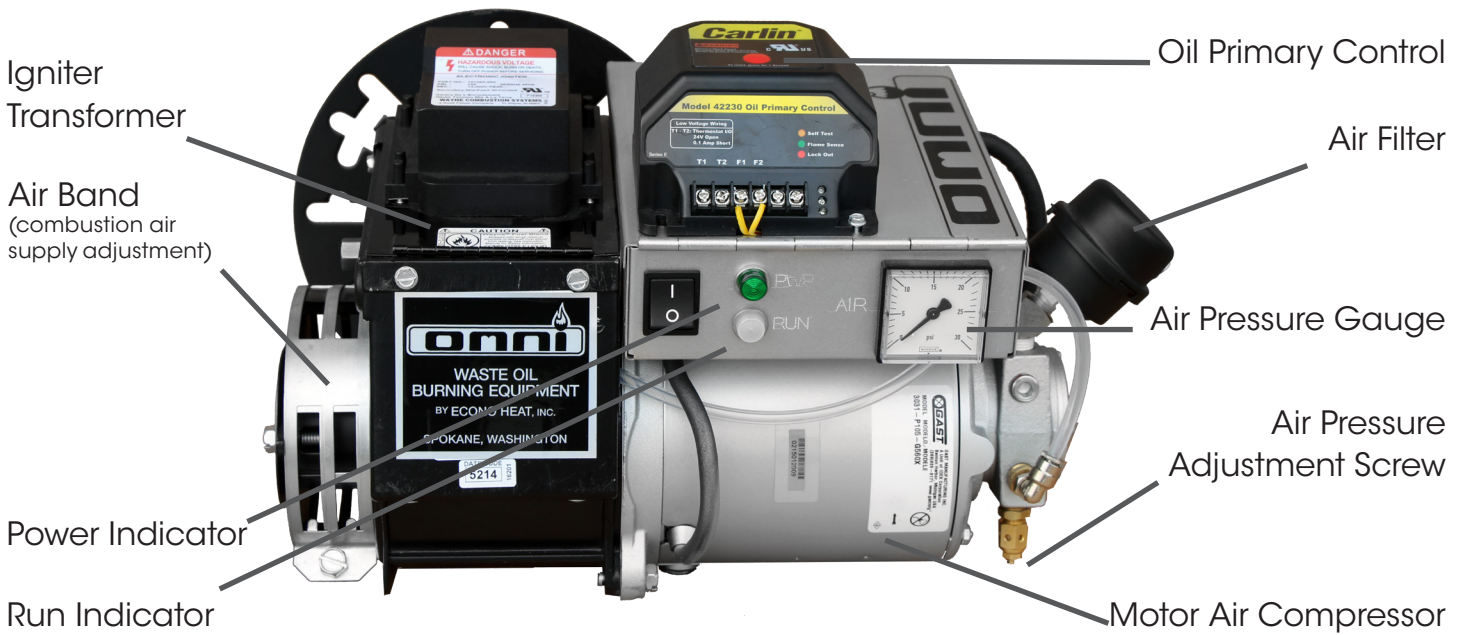
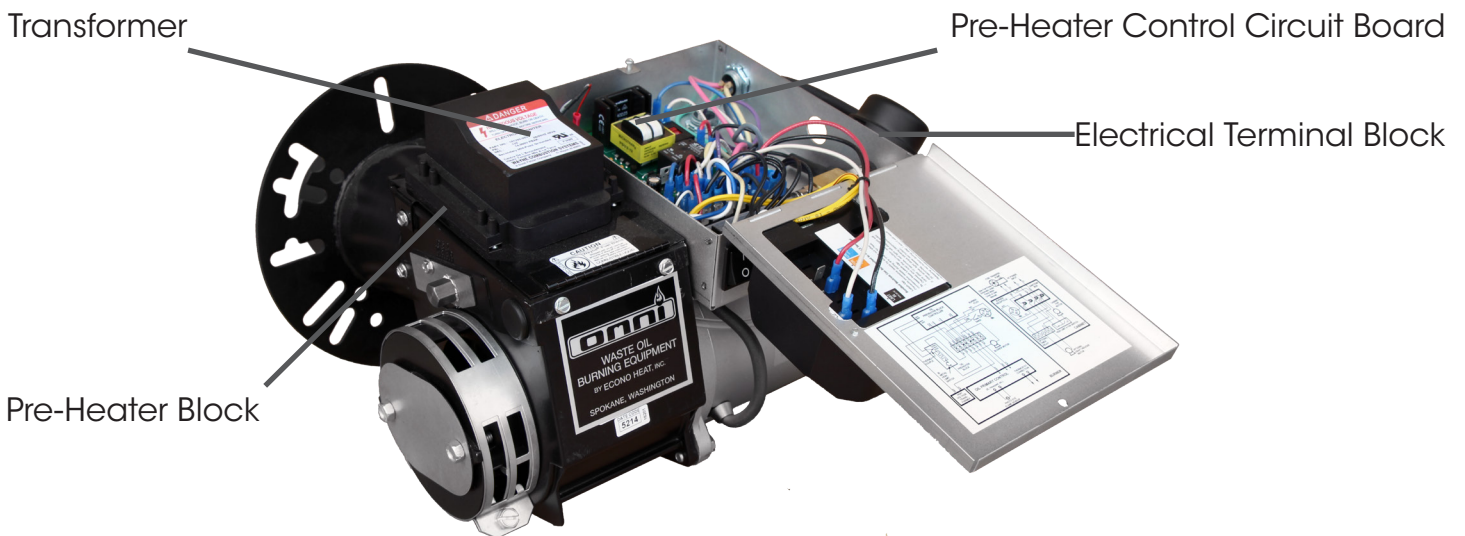
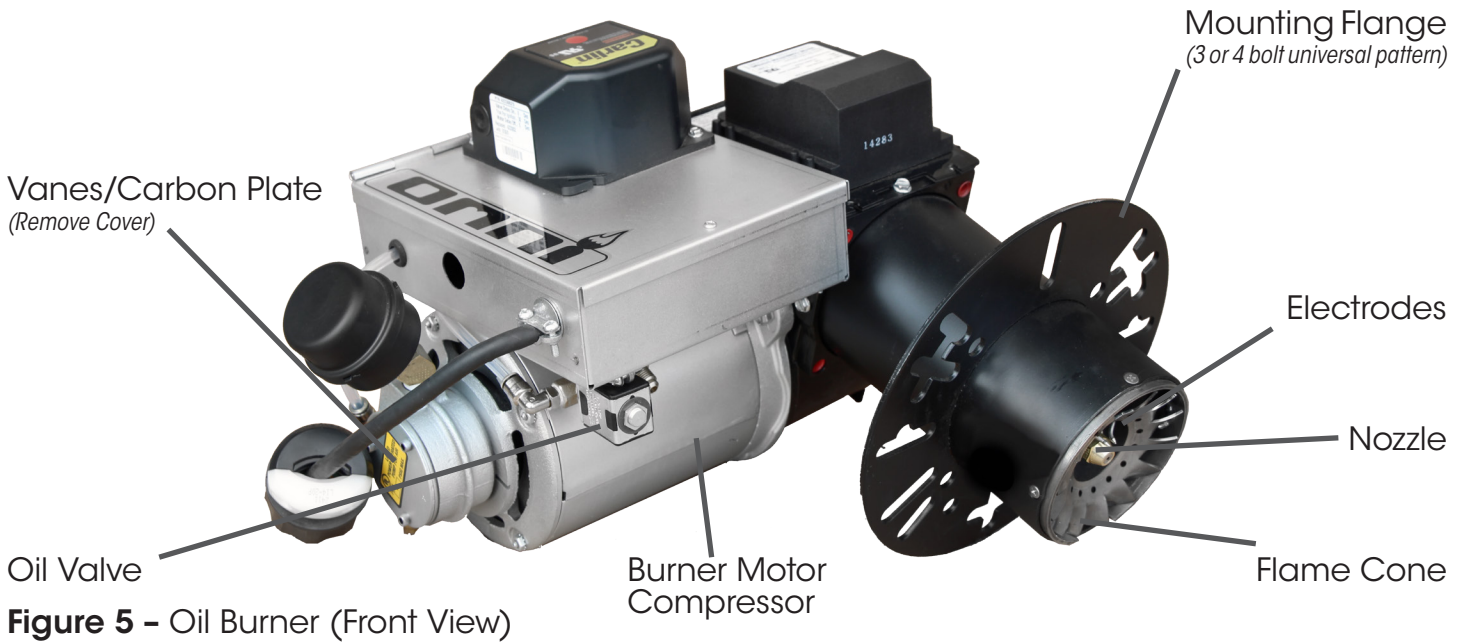

Figure 3 - Oil Burner (Back View Closed)
Figure 4 - Oil Burner (Back View Opened)
Figure 5 - Oil Burner (Front View)
3. Wire low voltage thermostat into "T" marked terminals on oil primary control on burner (Box on burner gun assembly with red reset button – figure 3).
OMNI's patented burner technology improves the efficiency of the oil burn process by continuous stabilization of the oil viscosity. Optimum atomization (spray) is accomplished by precisely pre-heating the oil and air prior to introduction to the combustion chamber. The waste oil enters into the Oil Pre-Heater Block (figure 4) and is pre-heated to operating thermo setpoint, then compressed air from the air compressor (figure 3) is mixed with the oil prior to spraying out the nozzle similar to fuel injection, by breaking up the oil droplets into a finer mist or spray (atomization). Electrodes mounted just above the nozzle (figure 5) provides continuous electrical arc across electrode to electrode igniting the fine oil mist as it sprays out of the nozzle. Once ignited the flame is forced into a swirl caused by the burners blower and specially designed flame cone (figure 5) providing a very efficient and thorough burn of the waste oil.
- **Igniter Transformer:** (figure 3) Supplies high voltage to the electrodes generating electrical arc igniting the oil.
- **Oil Valve:** (figure 5) energizes when burner is running and de-energizes when burner is not running eliminating bleed back of oil out of the Pre-heater block.
- **Air Band:** (figure 3) Adjusts amount of air introduced into the combustion chamber. Air band is adjusted at the factory for optimum performance, approx. $\frac{1}{2}$ to $\frac{3}{4}$ inch open. **NO FIELD ADJUSTMENT REQUIRED** unless in high altitudes application where minor adjustment may be required.
- **Oil Primary Control:** (figure 3) Controls the oil burner ignition. Checks for flame in the combustion chamber, if no flame is detected within 45 seconds, the oil primary will shutdown the oil burner. To restart the unit, reset the red button on the oil primary.
- **Oil Pre-Heater Block:** (figure 4) Pre-heats the oil and air before entering combustion chamber.
- **Photo Eye:** (figure 4) Senses flame in combustion chamber and signals oil primary when no flame is present.
- **Igniter Springs:** (figure 4) Transfers the high voltage from the igniter transformer to the electrodes (when door is closed)
- **Air Pressure Gauge:** (figure 3) Displays air pressure supplied by onboard air compressor.
- **Air Compressor:** (figure 3) Supplies air used within pre-heater block to aid in atomization of the oil.
- **Air Muffler/Filter:** (figure 3) Filters air and muffles the sound generated by the compressor.
- **Pre-Heater Control Circuit Board:** (figure 4) Precisely controls temperature of the Oil Pre-Heater Block and controls safety feature of not allowing burner to energize until oil has established operating thermo setpoint or shutdown burner if Pre-Heater Block temperature falls below shutdown thermo setpoint.
- **Electrodes:** (figure 4 and 5) Provides continuous high voltage electrical arc from electrode to electrode igniting the waste oil as it is being sprayed out of the nozzle.
- **Nozzle:** (figure 5) Low-pressure nozzle for oil spray pattern.
- **Flame Cone:** (figure 5) Specially engineered flame cone forces the flame into a swirl pattern improving the burn thoroughness.
- **Burner Motor:** (figure 5) Multitask motor turns the burner blower and integrated air compressor.
- **Air Pressure Adjuster:** (figure 3) Adjusts the air pressure going to the pre-heater block. Should be adjusted between 12 PSI and 13PSI as indicated on the Air Pressure Gauge on the burner for thorough burn of the waste oil. **Note: In order to insure proper air adjustment, air gauge must read 0 when burner is cycled off or powered down.**
- **Power Indicator:** (figure 3) Indicates when power is present at the burner.
- **Run Indicator:** (figure 3) Indicates that the burner is ready for operation after the initial pre-heat time of approx. 5 minutes from initial power up.
4. Making sure the thermostat is turned off, apply power to the burner. Switch burner main power switch to ON position. After allowing the oil pre-heater time to establish temperature setpoint, approximately 5 minutes. Jump the "T" terminals on the Oil Primary Control (figure 3). Once the burner is running, temporarily jump the "F" terminals on the Oil Primary. This will allow the burner to run during the pump priming process.
7. Combustion air band (figure 3) should be open approximately 1/2" or until flame is clear yellow, not orange. Opening the air band too far may cause delayed in starting or even prevent the flame from starting.
- Open the burner side clean-out door to access and clean flame cone (figure 5 above, and figure 8 below).
- Replace nozzle every 3-5 years depending on usage (figure 5 above, and figures 9, 10 and 11 below). Will lose efficiency due to erosion. This can be accessed by swinging the burner clean out door open (figure 8 below).
Electrodes are adjusted at time of manufacture. However, they should be check periodically and at time of installation, to be sure they are set as noted in the following dimensional drawing. Swing burner clean out door back for inspection (figure 5 above, and figures 10 and 11 below). **CAUTION: TURN OFF MAIN ELECTRIC SUPPLY SWITCH BEFORE CHECKING OR ADJUSTING ELECTRODE SETTING.**